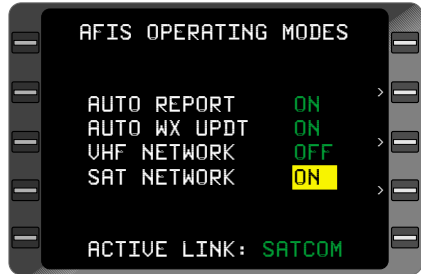

Figure 7-100
4. Line Select Key - DEPRESS to position cursor over ON option of **SAT** (satellite) **NETWORK** field. (Figure 7-100)